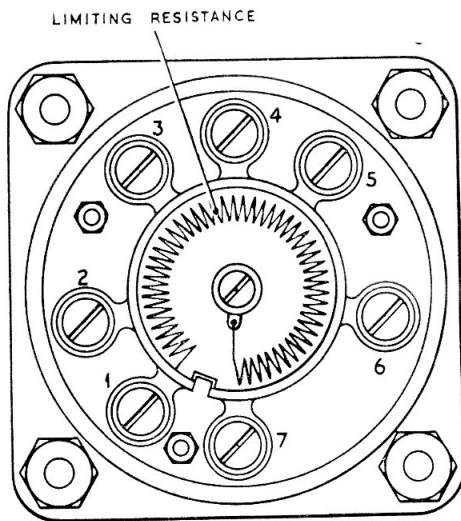

Fig. 3. Terminal view of indicator
8. When the 15 ohm resistance is fitted to an indicator, it is fitted in series with the filament lamps and is connected between terminal 1 and the common centre contact (fig. 3) and is housed within the cylindrical recess at the rear end of the unit.